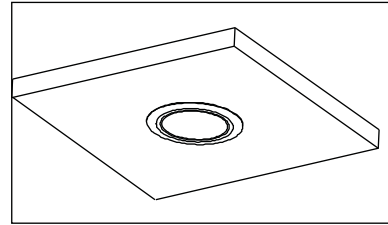

Figure 4 / Figura 4 / Schéma 4
4. Turn the power back on. If the module doesn't illuminate within 5 seconds, turn power off, carefully remove the module and double check all wiring and replace. (Figure 4)